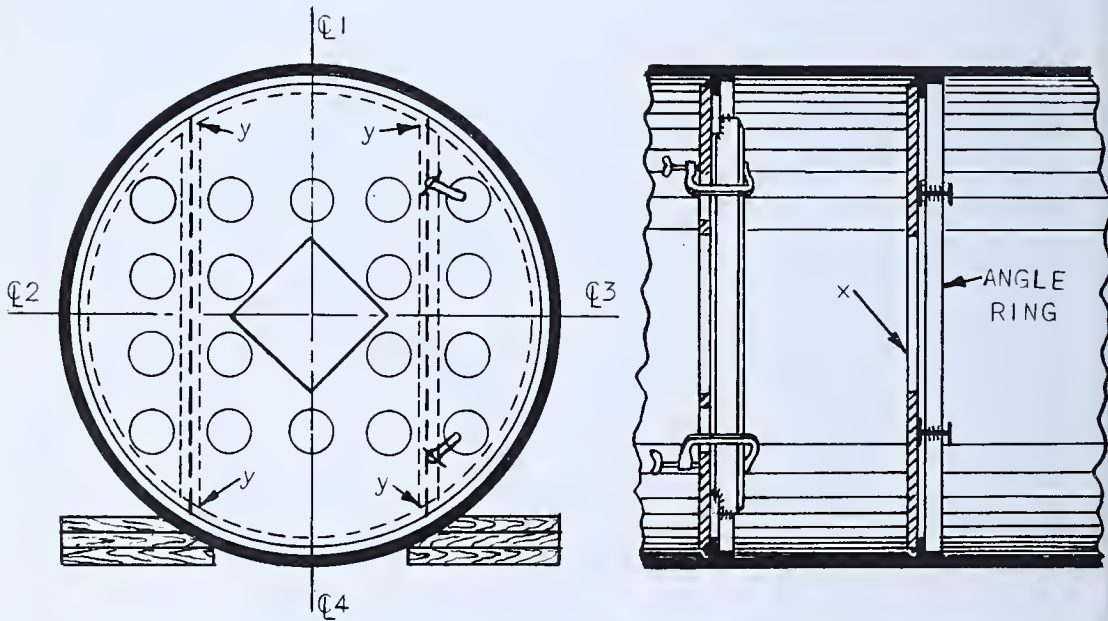

FIG. 385 — *A Tray Installed on Angle Ring*
As soon as a ring has been welded in place, a tray is installed, as shown in Fig. 385 at *x*. The tray is pushed into the shell and laid against the angle ring. It is centered in the shell to clear the inside by approximately the same distance all around. When the tray is centered
The tray is tack welded according to the information given on the blueprint. These tack welds are made at four points shown by *y* in Fig. 385. Study Fig. 385 carefully. The left-hand view shows two I-beam supports reaching across the shell from side to side. These I beams support the trays. The tack welds mentioned above are made from the tray to the toe of the angle ring at the I-beam locations as shown.
12. Tack weld at four points as shown in Fig. 385.